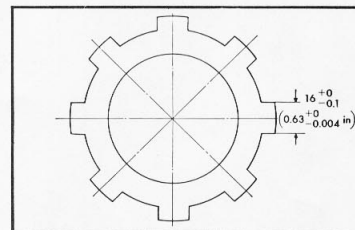

Figure 3-67. Clutch plate tab width
- (4) Clutch plate. (Fig. 3-67)